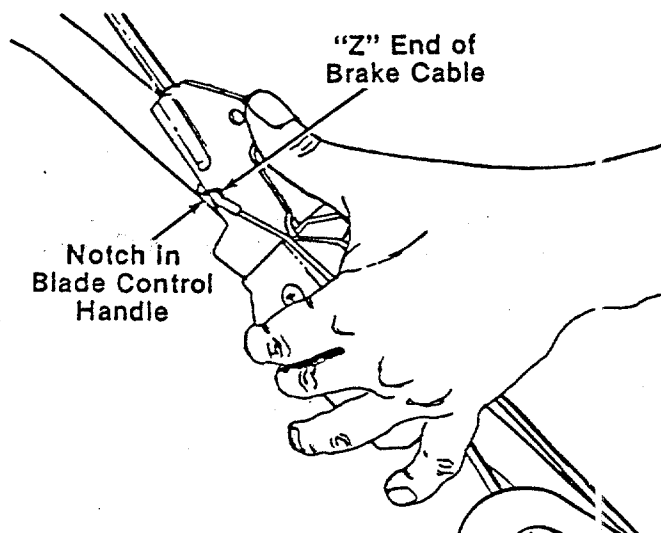

FIGURE 8.
- a. Hook the "Z" end of the cable into notch provided in the blade control handle. See figure 8.